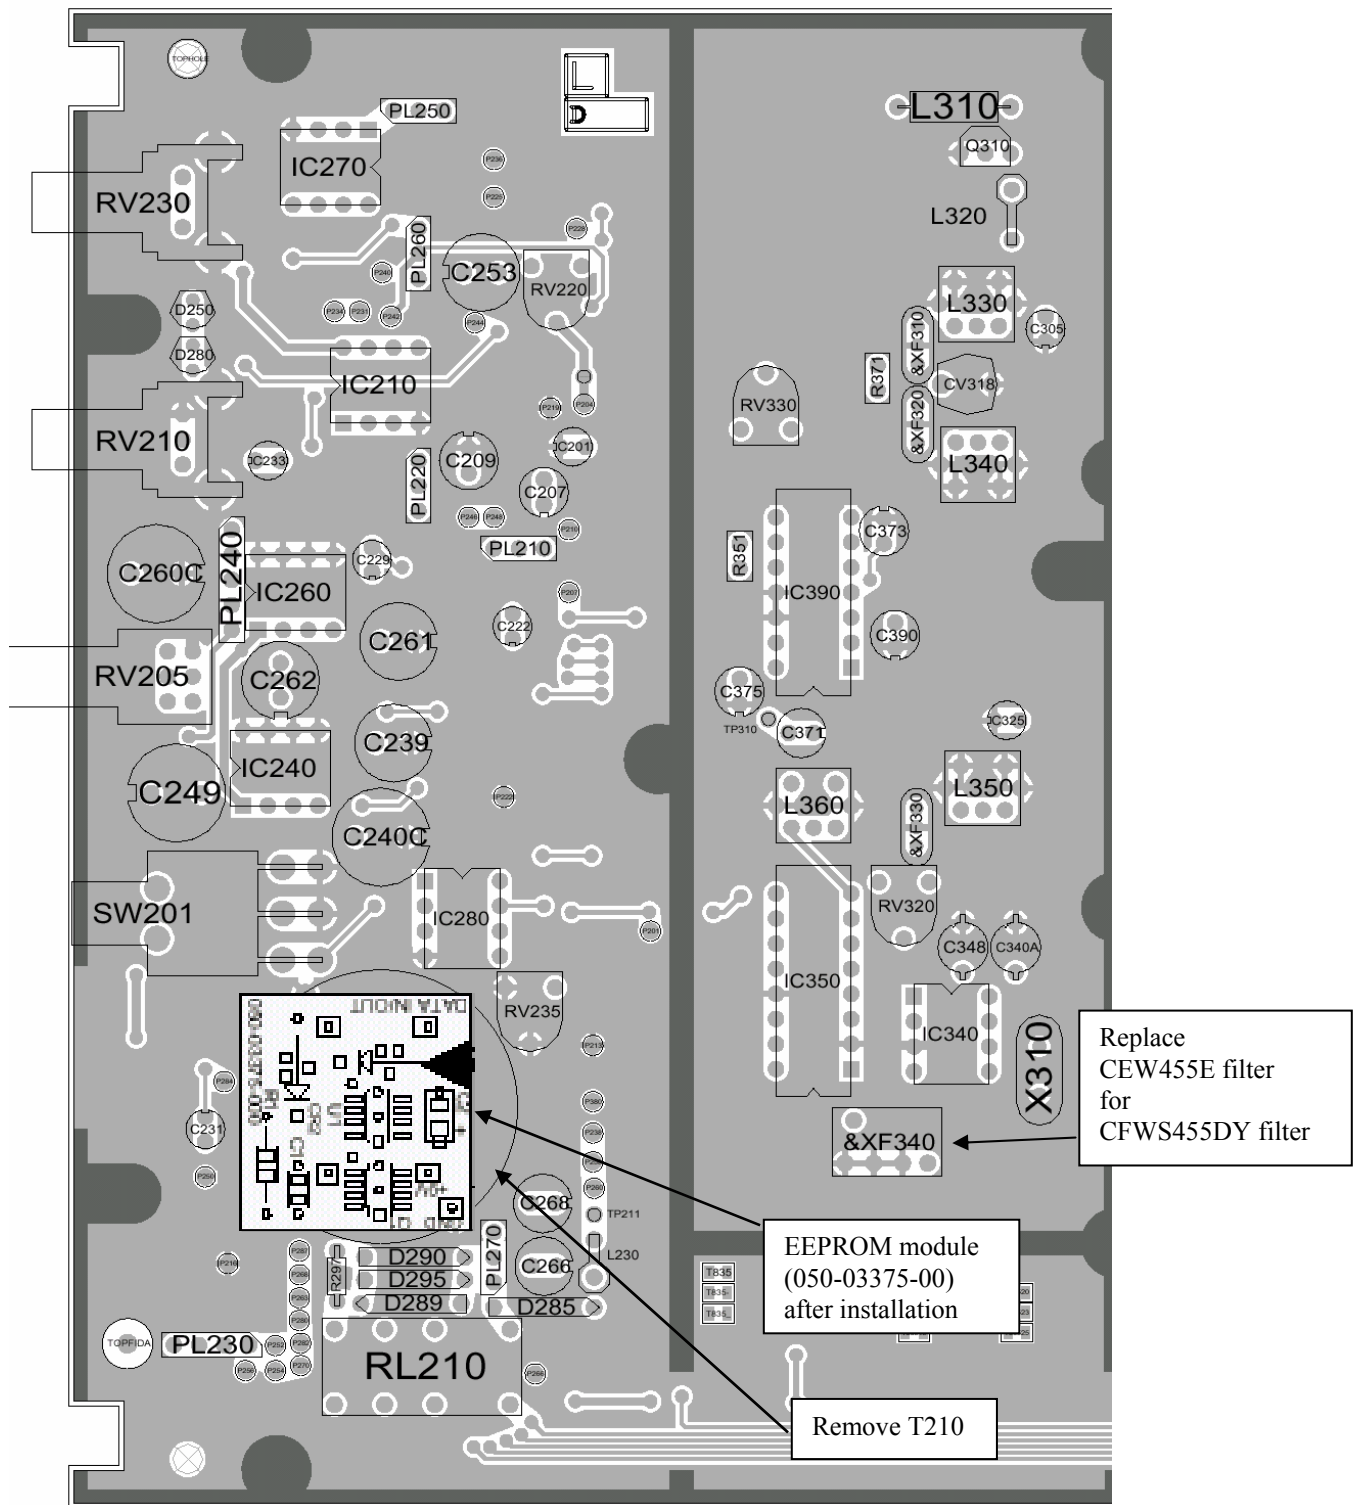

Figure 2 T835 PCB Layout -Top side
3. On the top side (handle side), locate and remove transformer T210 from the audio processor circuit. Refer to Figure 2 page 7
Refer to Figure 2 page 7